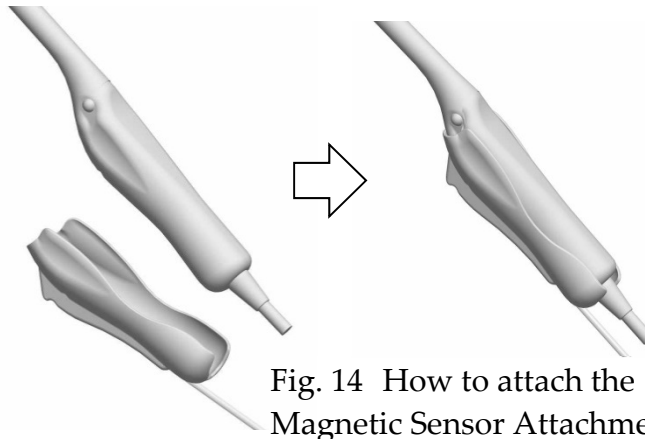

Fig. 14 How to attach the Magnetic Sensor Attachment
- 3) Attach the Magnetic Sensor Attachment to the probe as shown in Fig. 14.